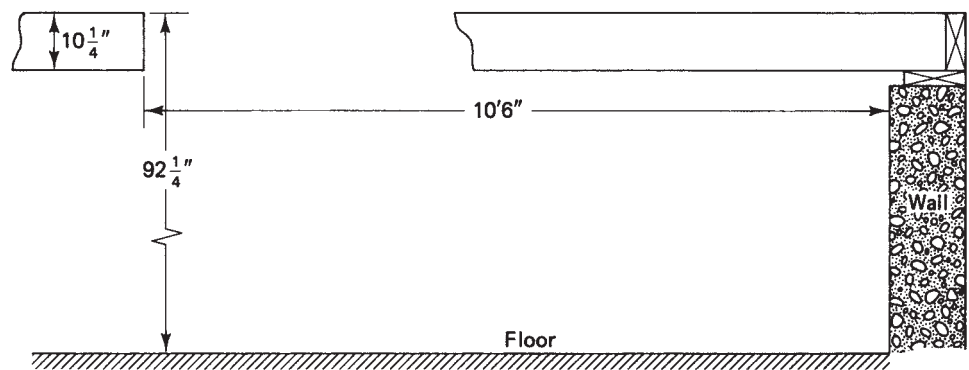

Figure 23–4
- A. The head of a set of stairs is to be located a horizontal distance 10 ft 6 in. from the vertical plane of a lower-level wall, toward which the stairs will run (see Figure 23–4). The total rise is $92\frac{1}{4}$ in., $10\frac{1}{4}$ in. of which is floor thickness. Design a set of stairs to fit in this space, determining the number of risers, the unit rise, and the unit run.